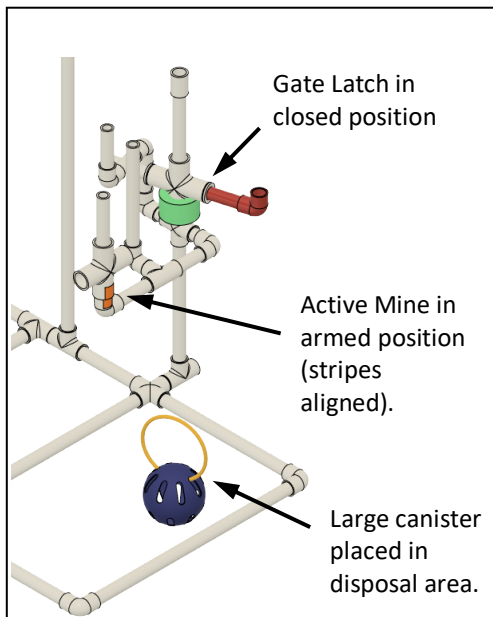
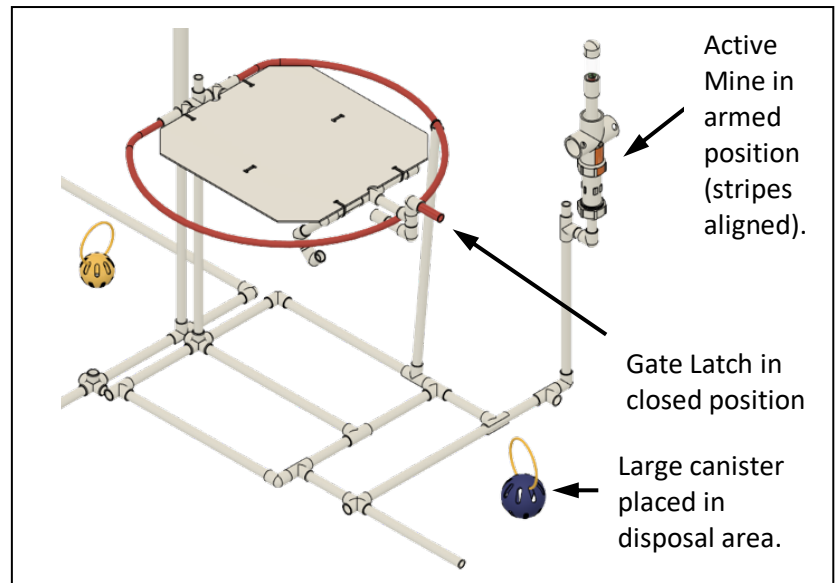

Figure 3 - Task 1 & 2 Setup
Figure 4 – Task 1 & 2 Setup (Full Course)
1. Run 1 - Course Setup (See Figure 3 & Figure 4)